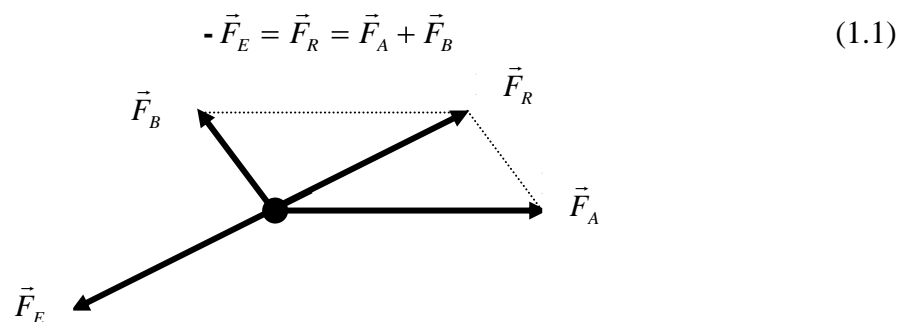

Figure 1.1: The equilibrant balances the resultant
**A-) Experimental Method:** Two forces are applied on the force table by using masses over pulleys positioned at certain angles. Then the angle and mass hung over a third pulley are adjusted until it balances the other two forces. This third force is called the equilibrant ( $\vec{F}_E$ ) since it is the force which established equilibrium. The equilibrant is not the same as the resultant ( $\vec{F}_R$ ). The resultant is the addition of the two forces. While the equilibrant is equal in magnitude to the resultant, it is in the opposite direction because it balances the resultant (see Fig.1.1). So the equilibrant is the negative of the resultant: